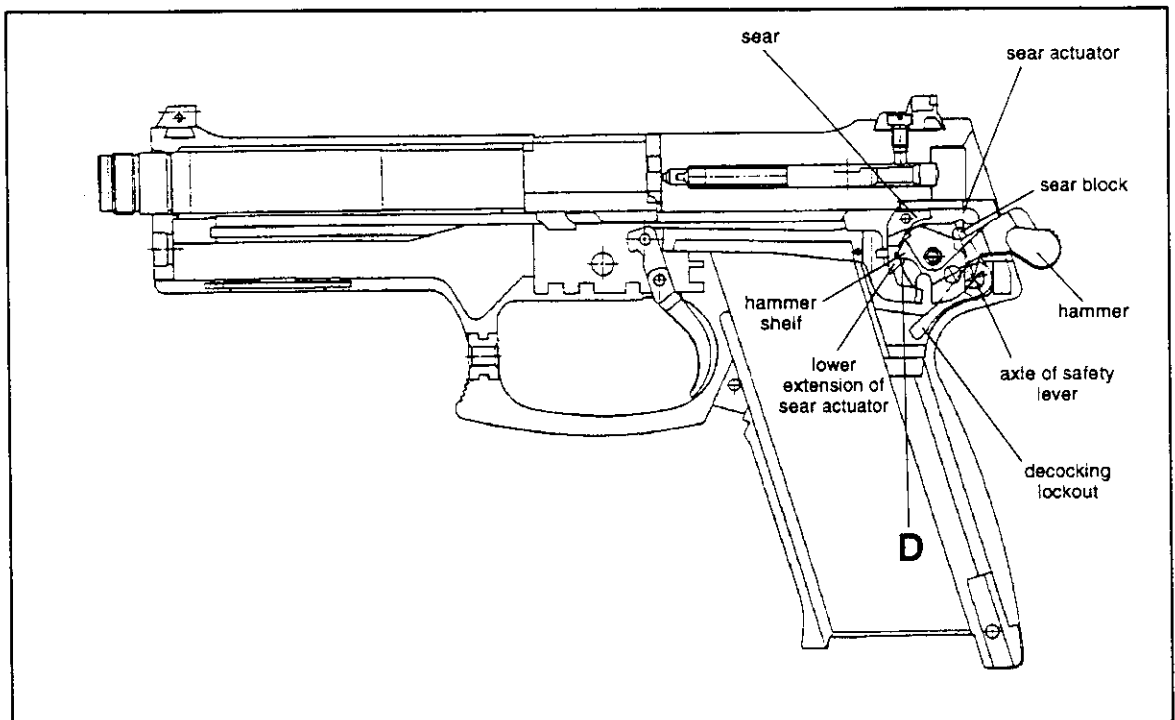

Figure 23
2. Safety lever is disengaged (down), pistol is set on "fire" (Figure 23).